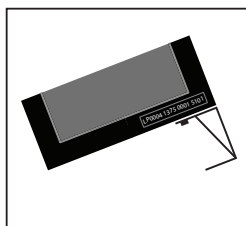

Figure 2.4
4. Carefully tilt the safe back down until it resting on angle (Figure 2.4).